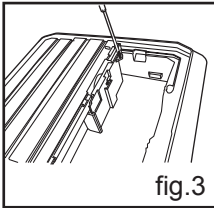

fig.3
- Remove the fixing screw & washer of the blade guard (fig. 3).
- Insert the blade guard into the notch then tighten the screw (fig. 3).